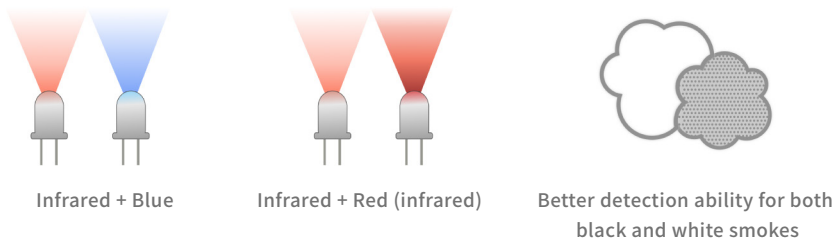

Figure 5. Dual-channel Adjustable Constant Current Emission
- Dual-channel digital adjustable constant current transmitter driver circuit, improving the identification of black and white smoke in fire scenes (Figure 5)